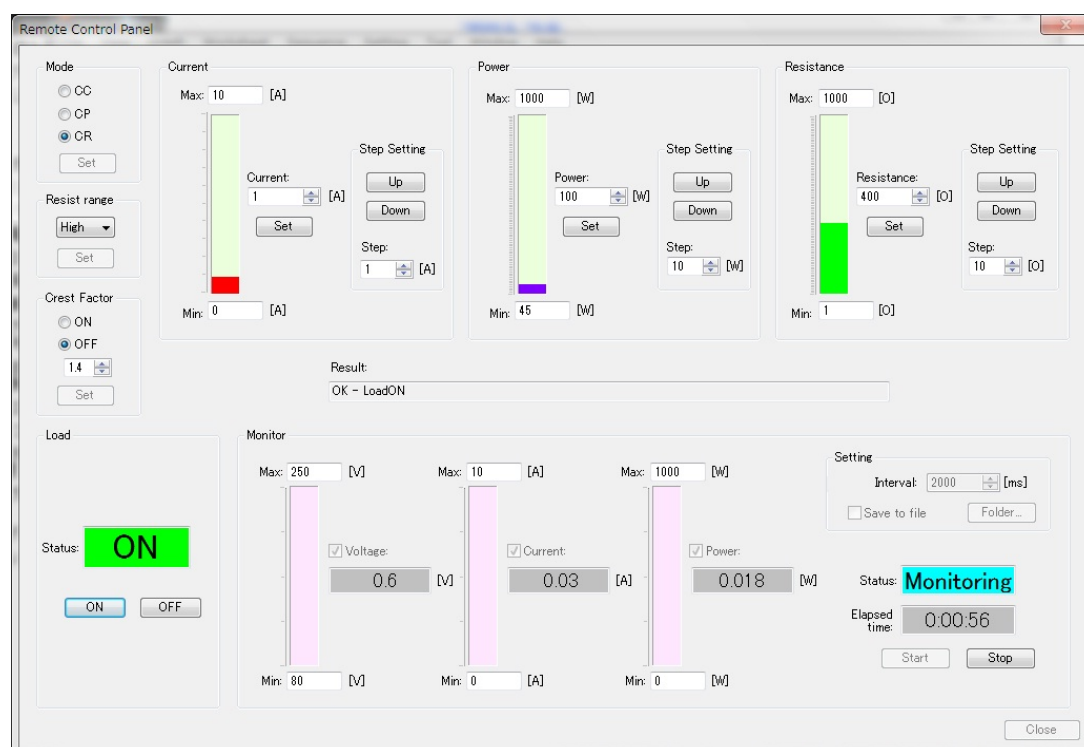

Fig. 13-1 Direct Control window
In Fig. 13-1, if in the Step Settings under Current, you click the up arrow button, the value becomes $5 + 1 = 6$ (A).